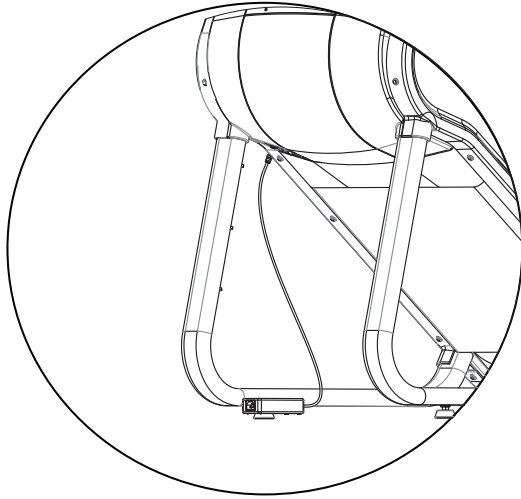

Figure 10
- 10-1 Connect the DC Power Cable from the Power Supply to the power connector located on the bottom cover (Figure 10).